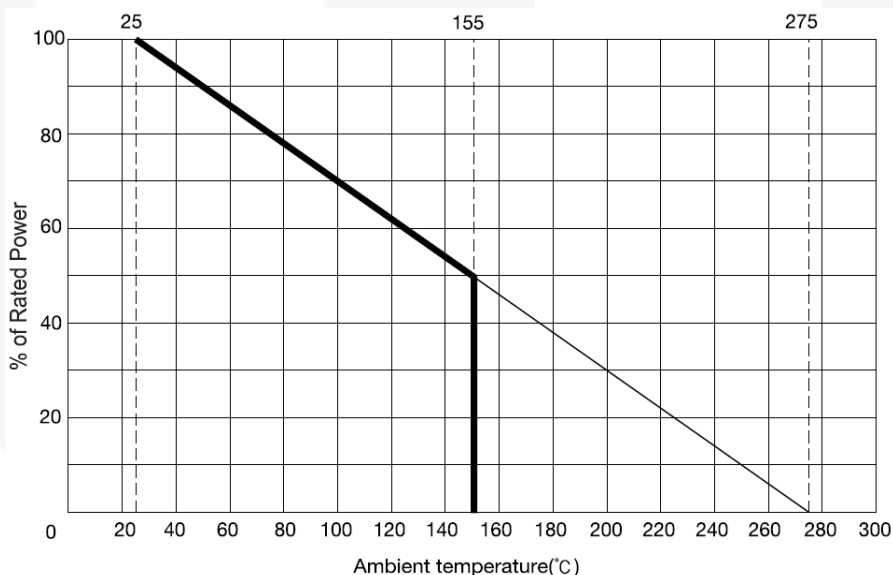

Figure 16. Derating Curve Example of Shunt Resistor (from RARA ELEC.)
- Modulation Index (MI): 0.9
- Power Factor (PF): 0.8
- Derating Ration of Shunt Resistor at $T_{SHUNT} = 100^{\circ}\text{C}$: 70% (refer to Figure 16)